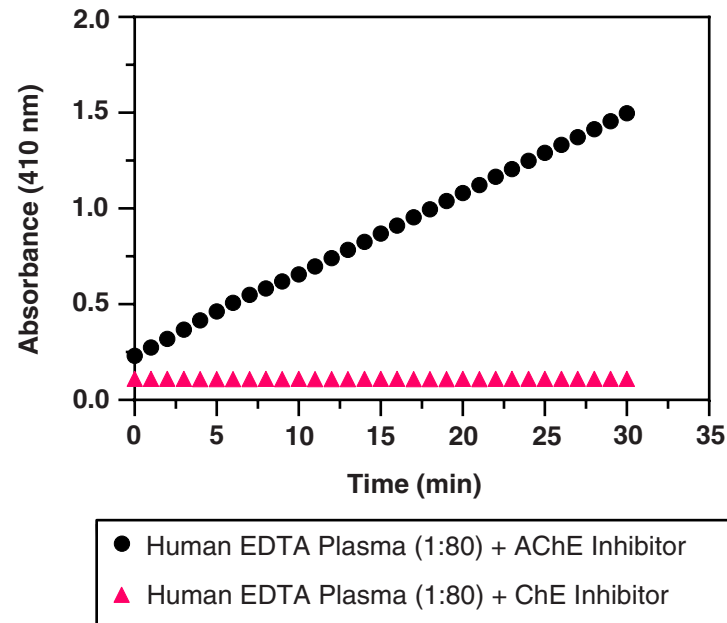

Figure 4. Absorbance versus time for human EDTA plasma (1:80) in the presence of AChE or ChE inhibitors
1. Determine the change in absorbance per minute ($\Delta A_{410}/\text{min}$) for each sample, positive control, and sample background well by plotting the absorbance values as a function of time to obtain the slope (rate) of the linear portion of the curve (see Figure 4, page 19).